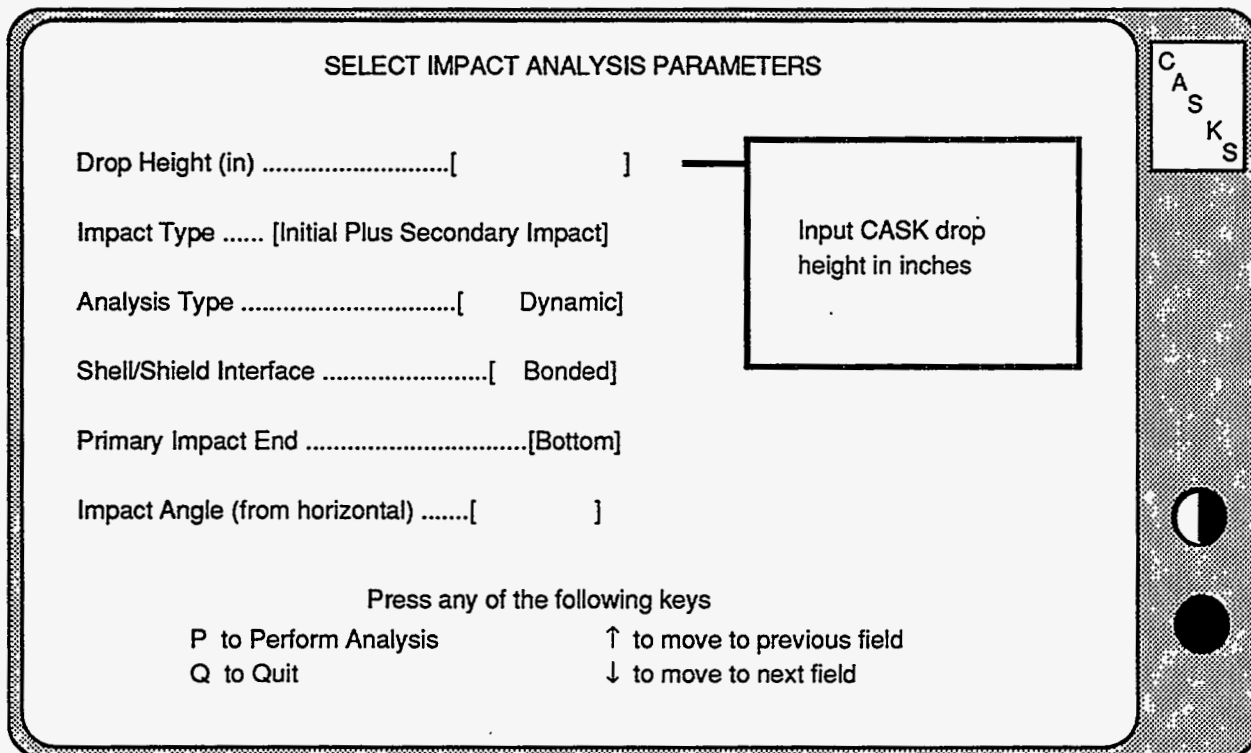

Figure 4-7. Select Impact Analysis Parameters Screen
When **U** (unyielding surface option) is selected, **CASKS** proceeds to perform Impact analysis by displaying the impact analysis parameters input screen as shown in Figure 4-7.
The user will be prompted with a message signaling the completion of combining the surface F/D curves just selected with that of the cask limiter F/D curve. CASKS then performs impact analysis by displaying **Figure 4-7**.
The six impact analysis parameters are: drop height; impact type; analysis type; shell/shield interface type; primary impact end; and impact angle (Figure 4-7).
- (1) Press **P** to perform the analysis.
- NOTE:** **P** must NOT be pressed where an input is sought, e.g., Drop Height or Impact Angle. **P** is accepted in any other field—Impact Type, Analysis Type, Shell/Shield Interface or Primary Impact End. See Fig. 4-7.)
- (2) Press **P** to perform another impact analysis (with different parameter selections)